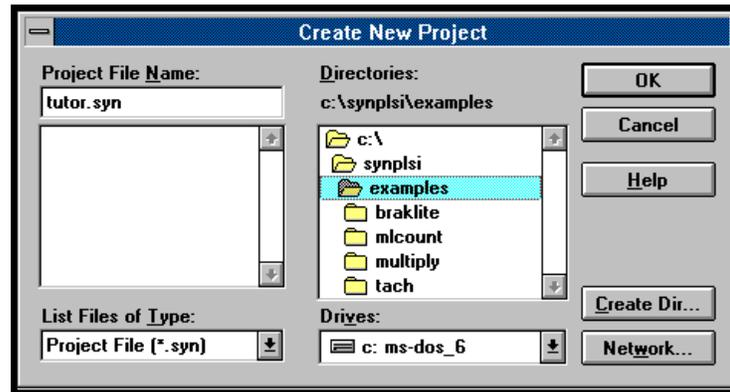

Figure 1-2. Create New Project Dialog Box
2. Select **File** ⇒ **New Project...** The Create New Project dialog box appears (Figure 1-2).
3. In the C (home) drive, click to open **synplsi**, then highlight the **examples** directory. In the Project File Name text box, type **tutor.syn** (Figure 1-2). Click **OK** or press **Enter**.